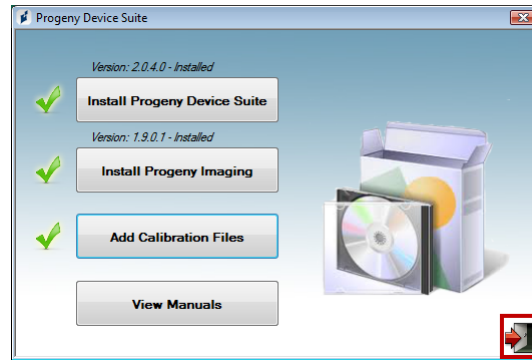

Figure 11: Calibration files are installed
- A green check mark next to the ‘Add Calibration Files’ button will appear when the calibration files are installed (Figure 11). Exit from the installation
by clicking on the 'Exit door' icon as highlighted on Figure 11.